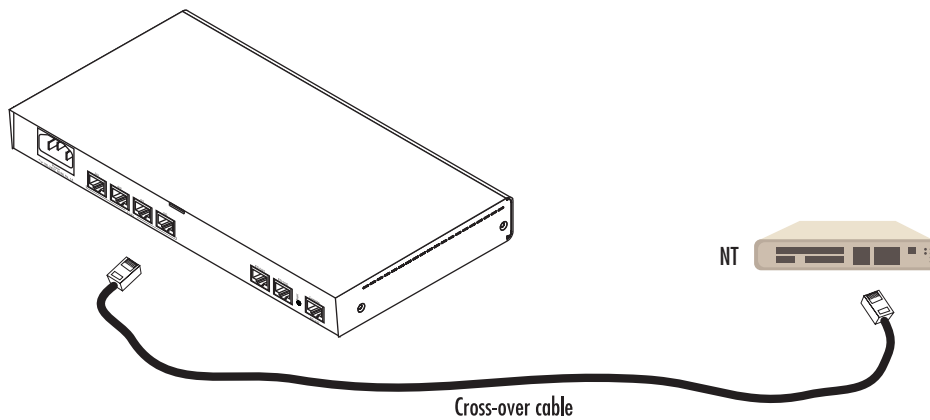

Figure 15. Connecting an E1 port to an NT1
The E1 Port is usually connected to a PBX or switch—local exchange (LE). Type and pin outs of these devices vary depending on the manufacturer. In most cases, a straight-through RJ-45 to RJ-45 can be used to connect the T1/E1 Port with a PBX. A cross-over cable is required to connect to an NT device, as illustrated in figure 15 on page 44.